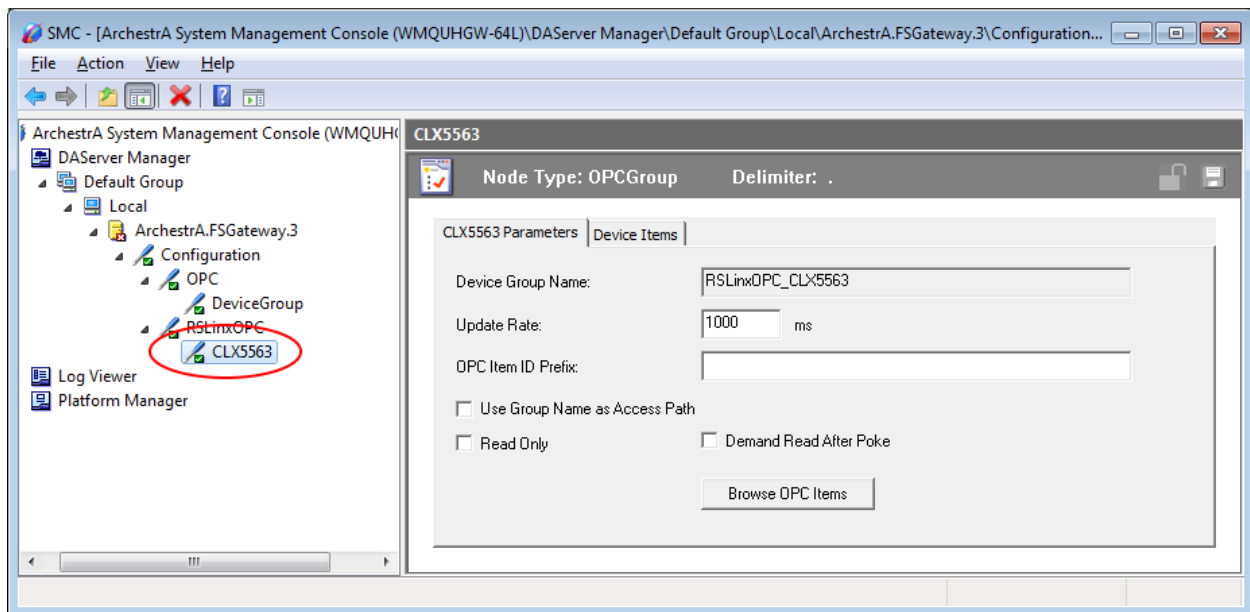

Figure 10: OPC Group Parameters
11. Rename the default New_OPC_Group_000 to a meaningful name such as **CLX5563** (Figure 10 below):
15. Click **OK** to return to the OPC Group Parameters tab field as shown in Figure 10 above.